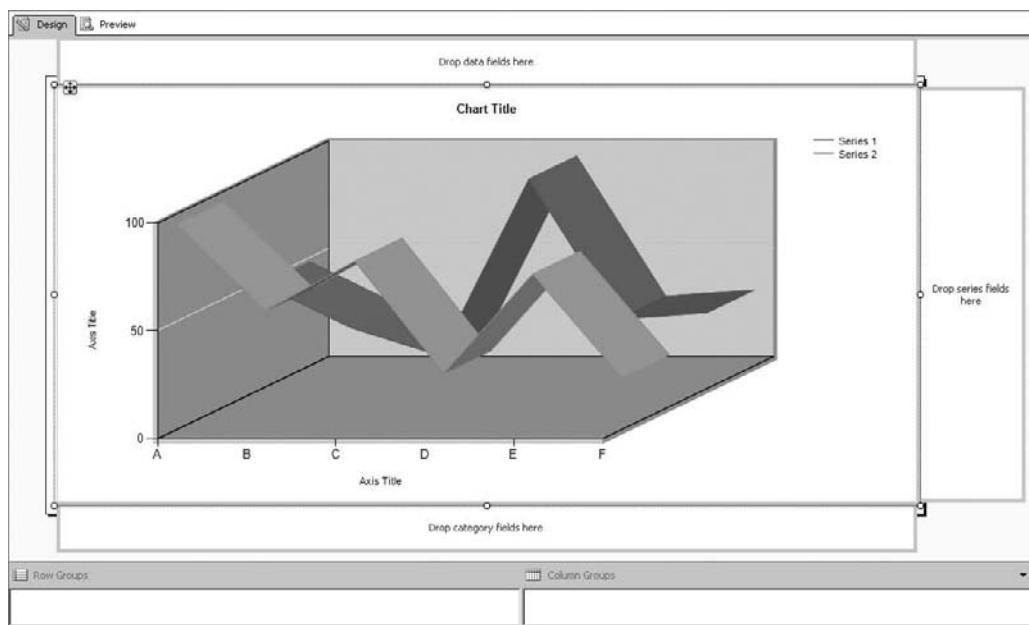

Figure 16-48 The chart data region with drag-and-drop targets
39. Click the chart. This displays three drag-and-drop targets, as shown in Figure 16-48. If these drag-and-drop targets are not visible, click the chart again and they will appear.